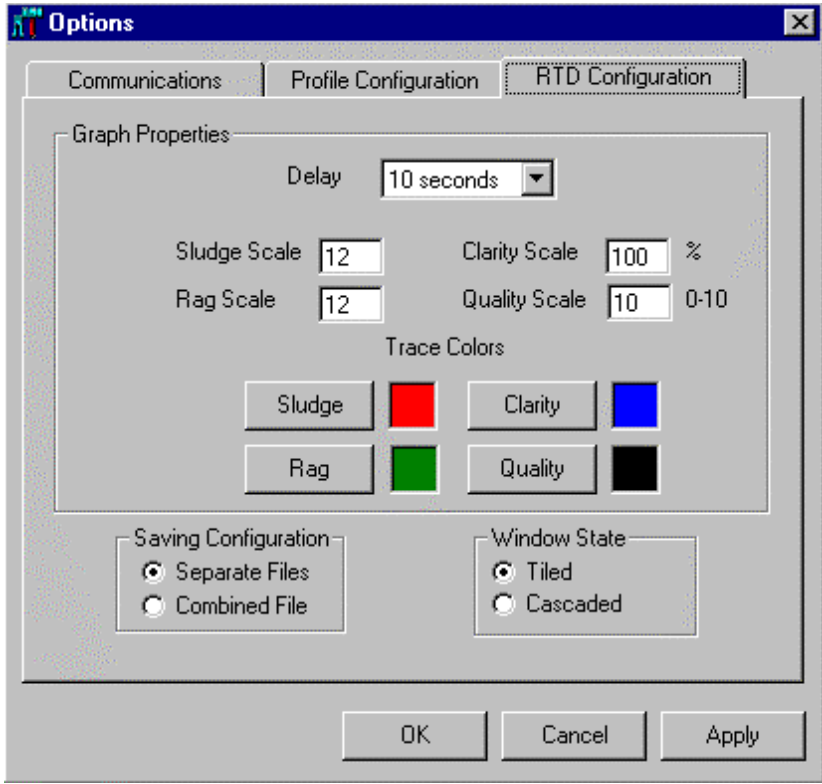

Figure 5 RTD Configuration Menu
- iii) RTD Configuration dialog (see Figure 5) allows the user to select save configuration, parameter scales and colors, delay (between data points),